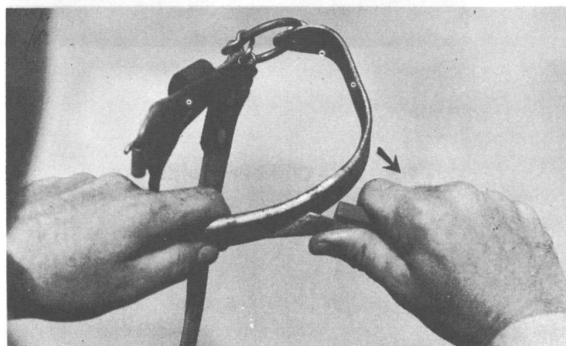

Fig. 20 — Honing Inner Surface
7.04 Hone the inner surface of the gaff by starting the stroke near the leg iron and continue over rounded curve of tip as indicated in Fig. 20. Stop the honing stroke before the stone slides off the end of the gaff to prevent dulling the tip. About 20 to 25 strokes of the honing stone should be enough. ***Do not attempt to reshape the tip of the gaff.***